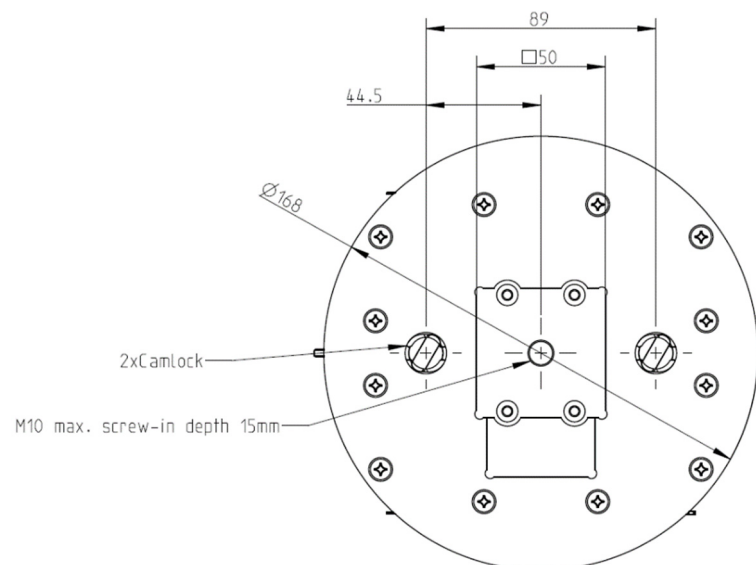

Figure 3. Mounting points in base
See Figure 3. The fixture's baseplate has:
1. See Figure 3. Two camlock quarter-turn fastener points are provided in the baseplate. Line up the camlock pins in the supplied X5 Tripod floor stand with the camlock fastener points in the baseplate, then insert the pins fully and turn their handles 90° clockwise to lock.
2. See Figure 3. Fasten the bolt through the half-coupler clamp and into the M10 threaded hole in the fixture's baseplate so that the clamp is held securely.
2. See Figure 3. Line up the two camlock quarter-turn pins in the omega bracket with the camlock fastener points in the base of the fixture and turn both locking levers a full 90° clockwise to lock the brackets to the fixture.